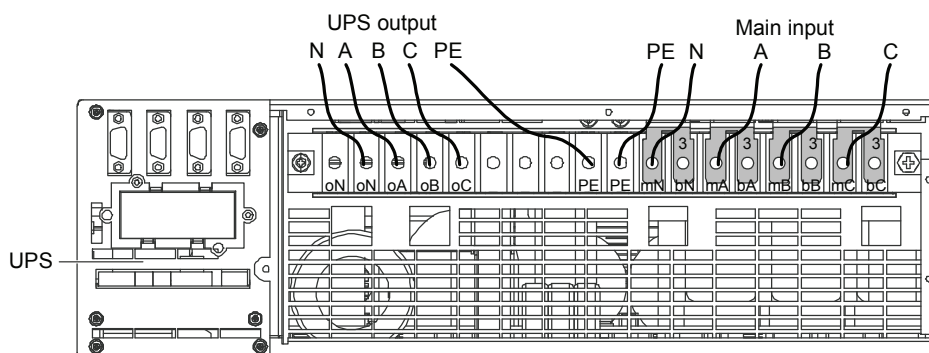
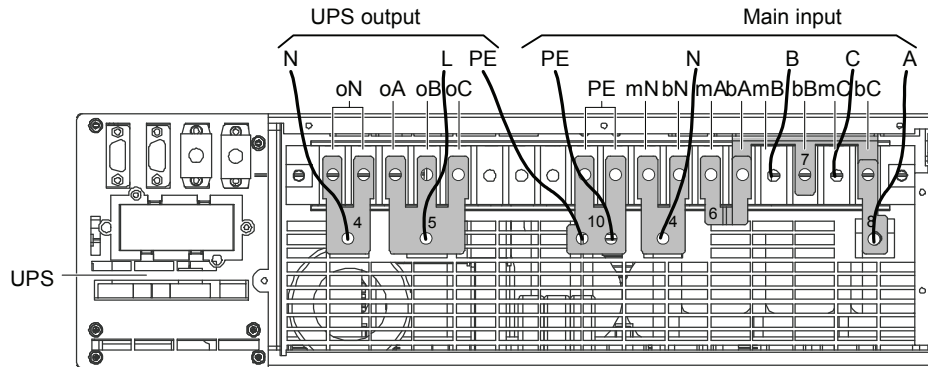
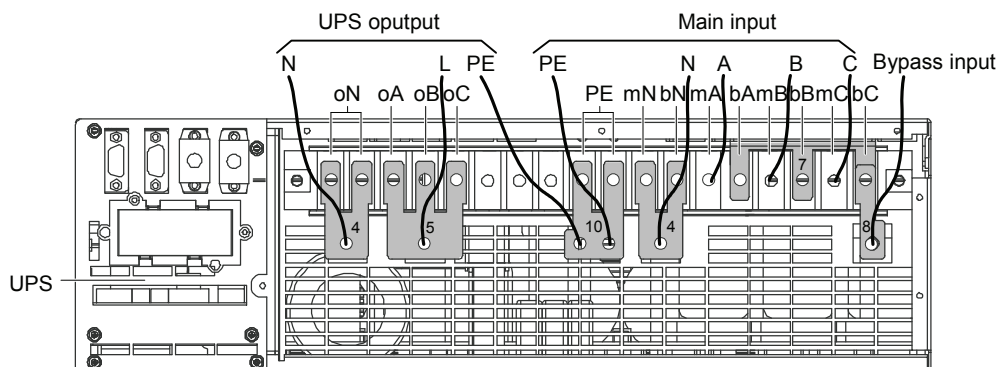
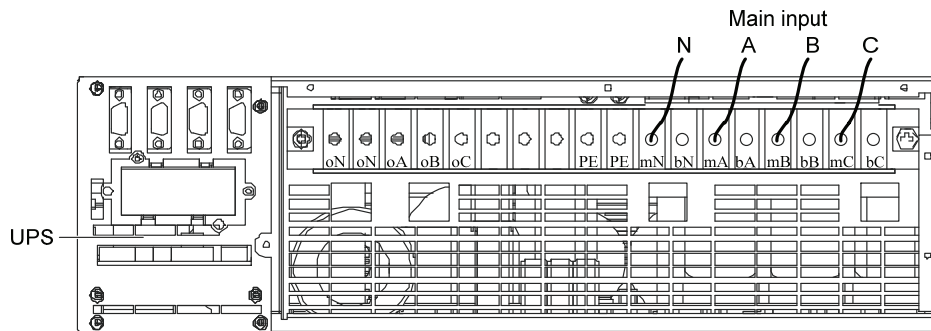

Figure 2-14 3-in 3-out, common source configuration cable connection
Figure 2-17 3-in 1-out, common source configuration cable connection
Figure 2-18 3-in 1-out, split-bypass configuration cable connection
Figure 2-20 Main input
2. Connect the live lines (output phase A, output phase B and output phase C), N line and PE line respectively to the I/O terminal block (oA, oB, oC and oN and PE terminals) of the UPS, as shown in Figure 2-14.
3. As shown in Figure 2-17, short connect bA, bB and bC terminals using the copper shorting bar 7, short connect the PE terminals of the I/O terminal block of the UPS using the copper shorting bar 10 with insulating film, short connect oA, oB and oC terminals using the copper shorting bar 5, short connect mA and bA terminals using the copper shorting bar 6, short connect mN and bN terminals, and two oN terminals using the two copper shorting bar 4.
4. Connect the copper shorting bar 8 to one end of the copper shorting bar 7 (see Figure 2-17), and connect the live line (input phase A) to the copper shorting bar 8.
3. As shown in Figure 2-18, short connect the two PE terminals of the I/O terminal block of the UPS using the copper shorting bar 10 with insulating film, short connect bA, bB and bC terminals using the copper shorting bar 7, short connect oA, oB and oC terminals using the copper shorting bar 5, short connect mN and bN terminals, and two oN terminals using the two copper shorting bar 4.
5. Connect the copper shorting bar 8 to one end of the copper shorting bar 7 (see Figure 2-18), and connect the live line (bypass input phase A) to the copper shorting bar 8.
1. Remove all the copper shorting bars 3 shown in Figure 2-14 of the 3-in 3-out system; connect the main input cables only. It is prohibited to connect the bypass input cables, output cables and battery cables, as shown in Figure 2-20.
1. Remove all copper shorting bars shown in Figure 2-17 and Figure 2-18 of the 3-in 1-out system, connect the main input cables only. It is prohibited to connect the bypass input cables, output cables and battery cables, as shown in Figure 2-20.